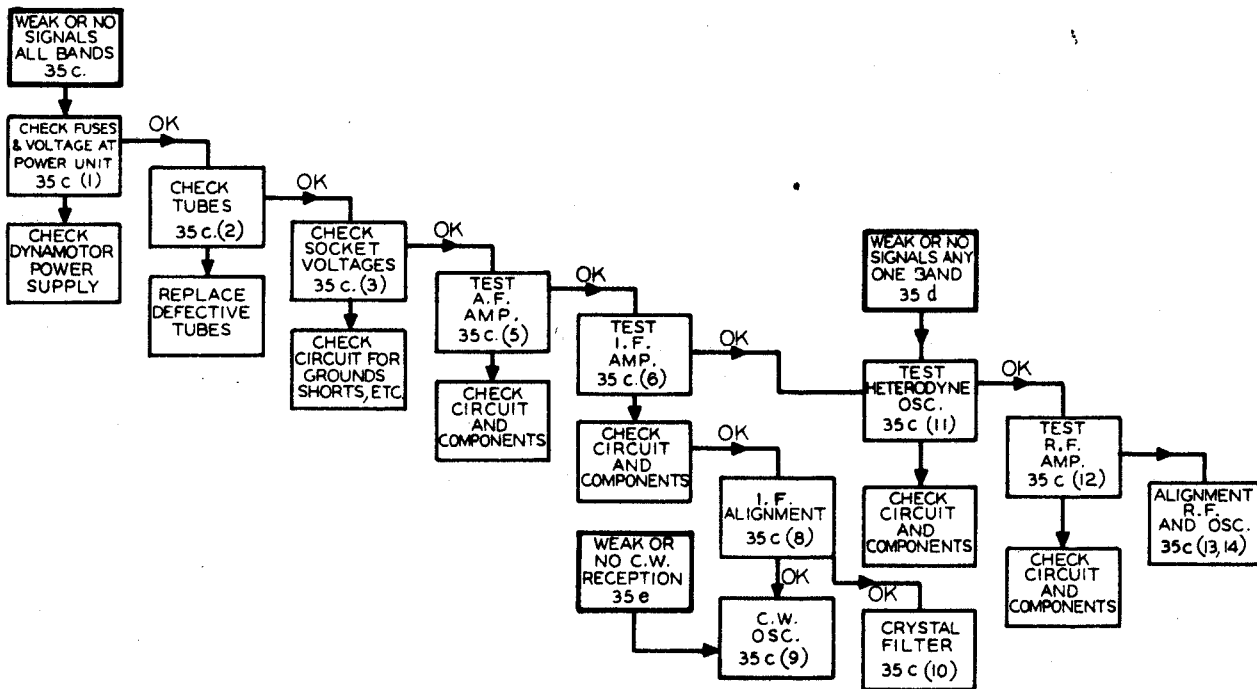
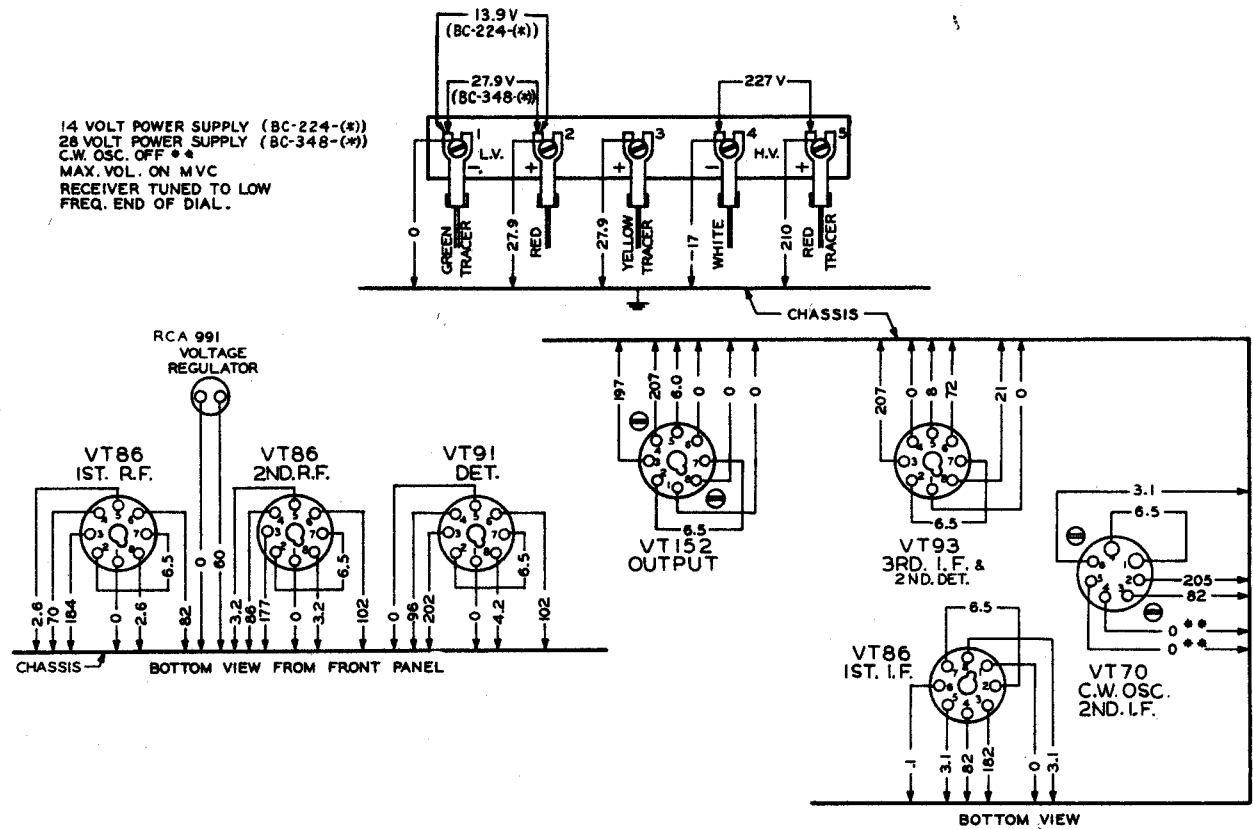

Figure 5-1. Trouble Location and Correction Diagram
Figure 5-2. Radio Receiver BC-348- (\*) or BC-224- (\*)—Dynamotor and Tube Socket Voltages
Figure 5-1 graphically outlines the procedure for trouble location, the numbers in each block referring to the paragraphs in this section.
(1) CHECK OF DYNAMOTOR VOLTAGES.—When all signals on all bands are weak or no signals are heard even when known to be present, the procedure follows that shown in Figure 5-1. The voltages checked at the dynamotor terminal board should closely approximate the values shown in Figure 5-2. Conditions for measurement are as follows: Input 28-volts for Radio Receiver BC-348-(\*) or 14-volts for Radio Receiver BC-224-(\*); "CRYSTAL" Switch Set to "OUT"; "AVC-OFF-MVC" Switch Set to "MVC"; "INCREASE VOL." control set to maximum; "C.W. OSC." Switch Set to "OFF." Load 4,000 ohms resistance (output transformer connected for HI output impedance). If these readings do not approximate the values shown, check the fuse as well as the dynamotor and filter circuits, wiring and components.
(2) TUBE CHECK.—If the voltages at the dynamotor terminal board approximate the values given, check all tubes for emission and characteristics or replace all tubes with those of known average characteristics.
(3) CHECK OF SOCKET VOLTAGES.—If tubes check satisfactorily, or if, after replacing with tubes known to be good, the sensitivity is still low, check all tube socket voltages. The average socket voltages are given in Figure 5-2.
(4) CHECK CIRCUIT WIRING AND COMPONENTS.—If the tube socket voltages do not approximate the values shown in figure 5-2, check the associated circuits and components for grounds, shorts, and similar defects.
(5) TEST OF AUDIO-FREQUENCY AMPLIFIER.—Having checked all socket voltages and found the values to be correct, test the audio frequency amplifier. This can be checked by capacitively-coupling a 400-cycle voltage of approximately 2 volts rms from the detector diode socket prong to ground using a capacitor of 500,000 micromicrofarads. As an alternative, a modulated 915 kc signal of 2 volts may be coupled to this point and ground. Proper functioning of the audio amplifier will be indicated by an output well over 10 milliwatts for the 2 volt audio input or approximately 1 milliwatt output for 915 kc input. Check circuits, wiring and components if this order of response is not obtained.
(6) TEST OF INTERMEDIATE-FREQUENCY AMPLIFIER.—Following a satisfactory test of the audio amplifier, check the intermediate frequency am-